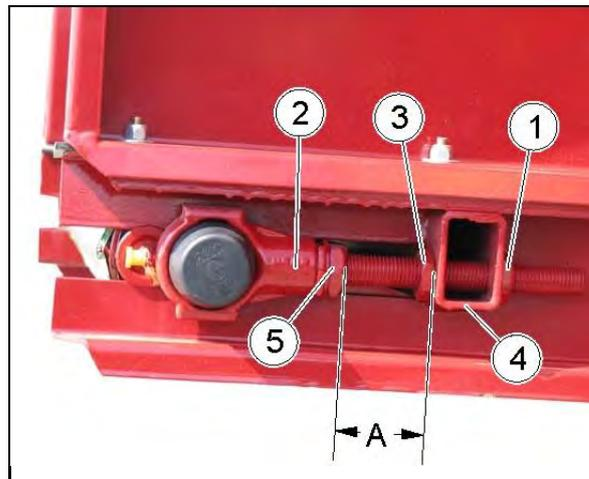

Fig. 121
- Straighten the conveyor by means of the clamping screws (Fig. 121/2) if the conveyor is not running straight or is rubbing along the frame.